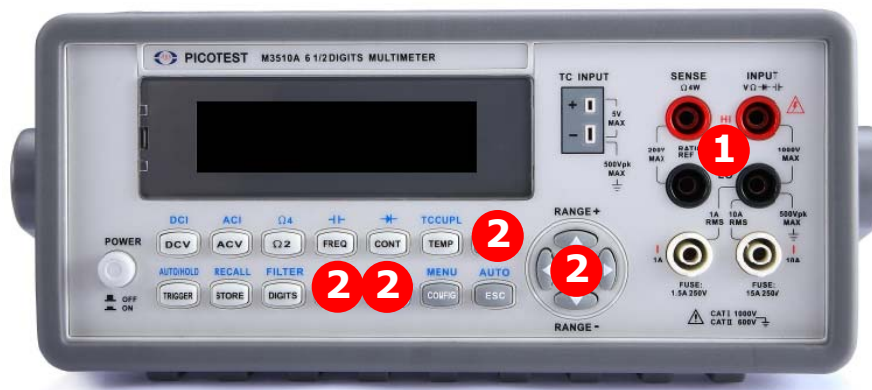

Figure 4-22.
1. Store the null test lead resistance: First of all, short the two test leads together and then press NULL button. The new reading taken will replace the old value, if any, in the null register. Then, connect the two test leads to the input source. The value with null offset will show on the display as shown in **Figure 4-22**.